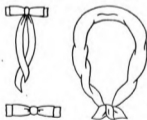

FIGURE 172
*Ties* (Figure 172). — Ties may be cut single or double and on the straight or bias of the fabric. They should be designed in keeping with the belt. Ties may vary in width, but they should never be